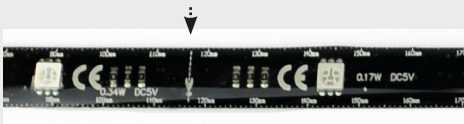

Fig. 1
7. The LED-strip may be shortened at the marked spots. Therefore you have to cut the strip with scissors at the broken lines as seen in Fig. 1.